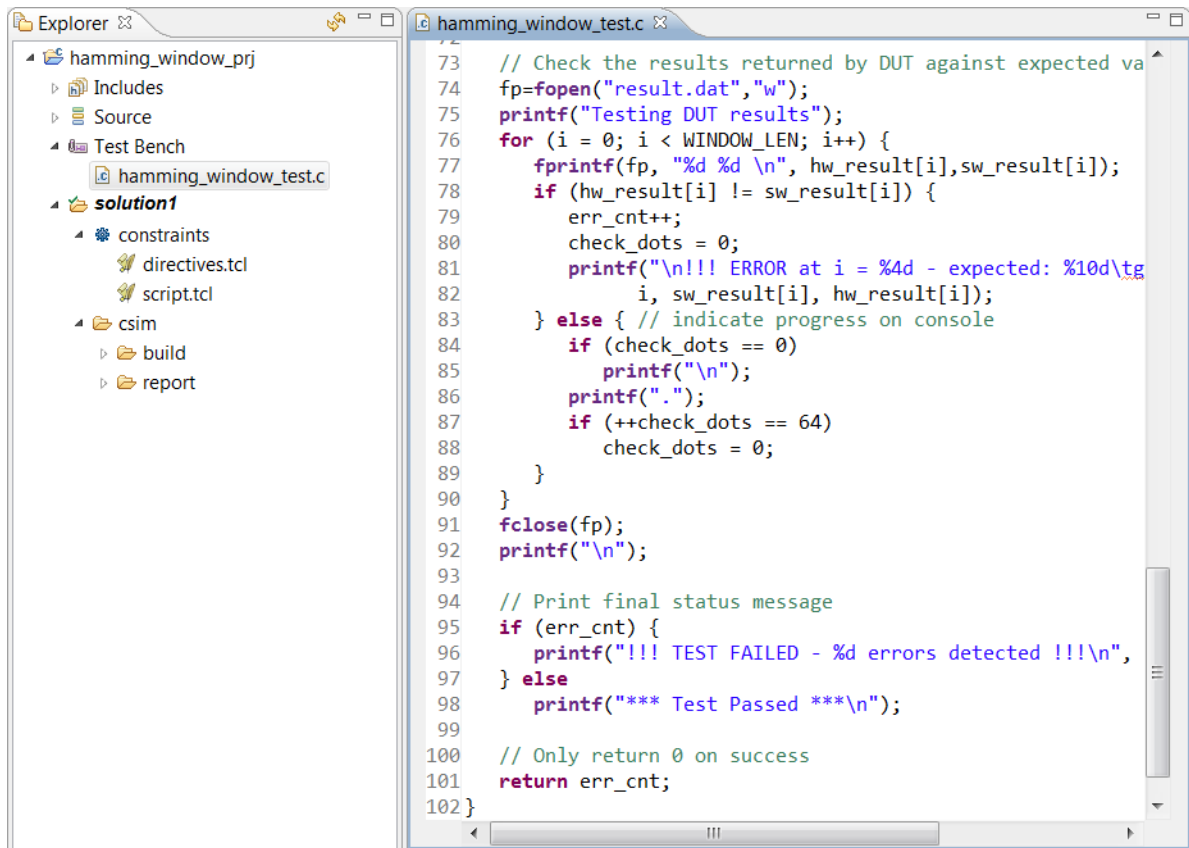

Figure 3-4: C Test Bench for C Validation Lab 1
1. Open the C test bench for review by double-clicking `hamming_window_test.c` in the Test Bench folder (Figure 3-4).